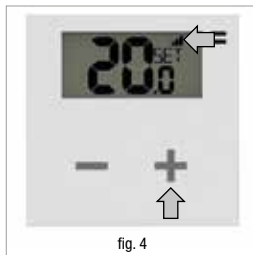

fig. 4
9. Verify the **THERMOSTAT's** radio signal coverage by tapping on + and - touch keys: on the display will appear at least one visible bar  (fig. 4).